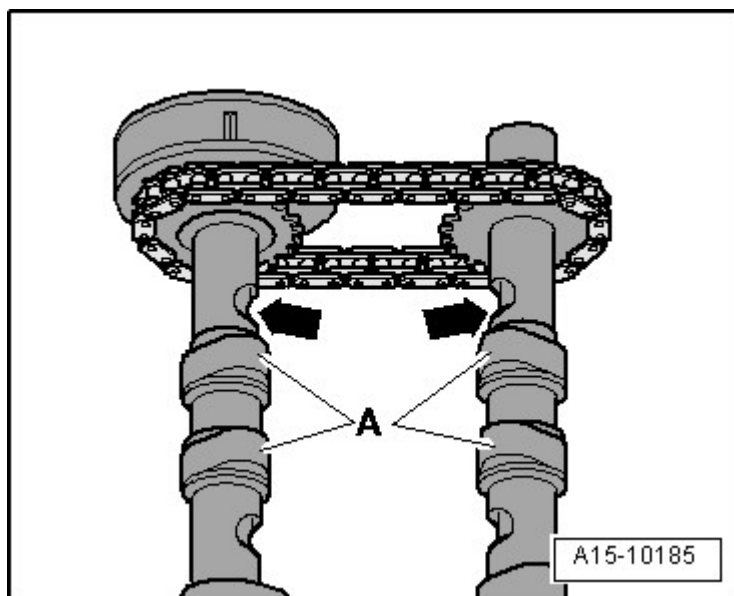

Fig. 116: Cams And Notches
-- If the -T10252- cannot be inserted, remove guide frame again and repeat camshaft installation **Fig. 116**.